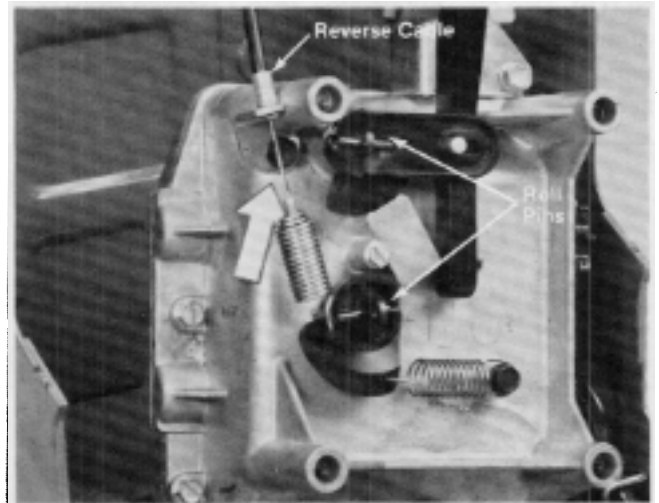

Figure 80
9. Remove the reverse cable clamp and the reverse cable from the top of the transmission. See Figure 80.
1. Remove the roll pins on the top of the transmission that secure the gear selector control arm and the direction control arm to the shift forks. Remove the two control arms. See Figure 80.